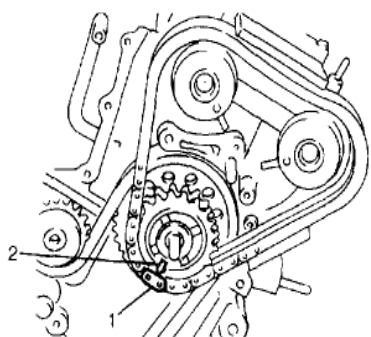

FIGURE 13
15. Tighten timing chain tensioner bolt c 18 ft/lbs, bolt d 32.5 ft/lbs tightening order 1, 2 & 3 see Figure 13.